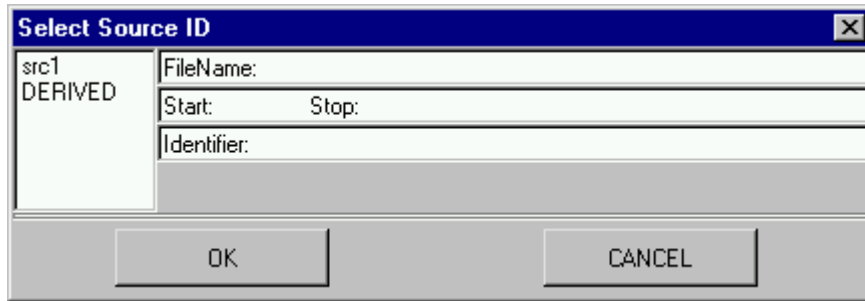

Figure 1-13 The Select Source ID dialog box
Step 2 In the dialog box, specify a filename and directory for the tabular data file and click **OK**. This brings up the Select Source ID dialog box, shown in Figure 1-13.